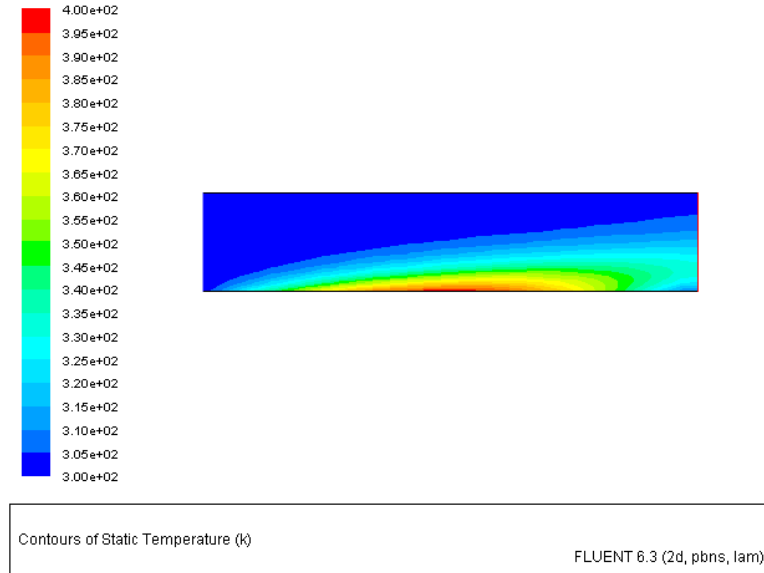

Figure 4: Contours of Static Temperature
1. Display filled contours of static temperature (Figure 4).
The contour plot in Figure 4 shows that the temperature on the wall and in the fluid reaches a peak at the center of the channel due to the peak in the prescribed wall temperature.